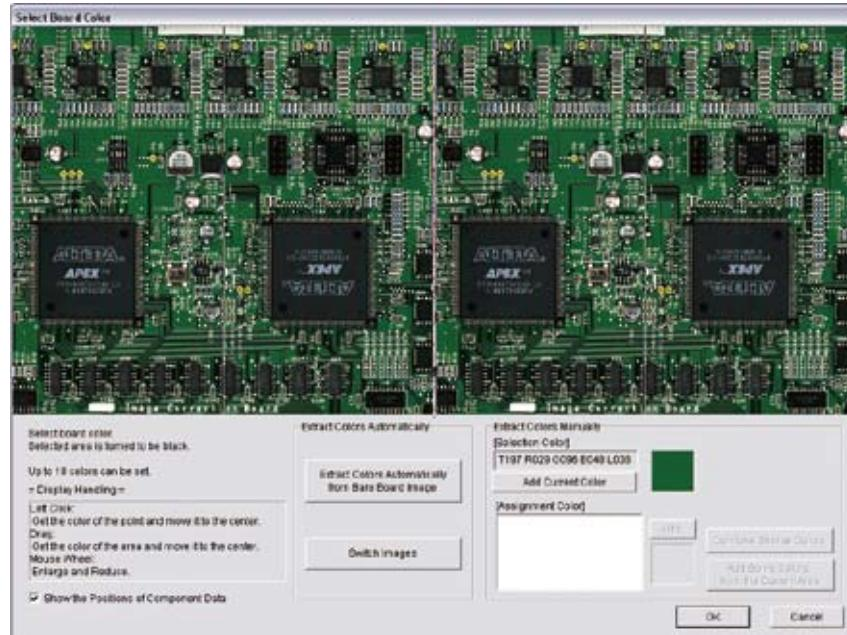

Figure 2-5 Specify PCB Color
Step2: The window shown in Figure 2-5 appears. Register the PCB color as NG color. Procedures depend on the presence or absence of bare PCB.